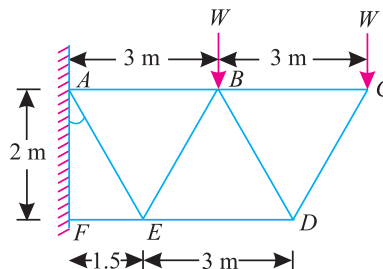

Fig. 13.27.
**Example 13.7.** A cantilever truss is loaded as shown in Fig 13.27.